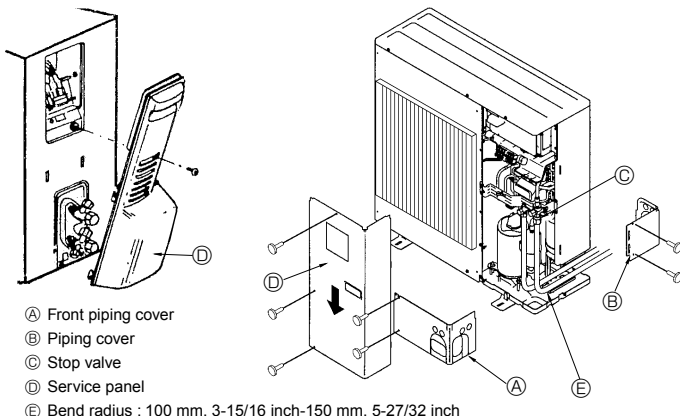

Fig. 4-3
- ② Flare the liquid pipes and gas pipes and apply a thin layer of refrigeration oil (Applied on site).
4.3. Refrigerant piping (Fig. 4-3)